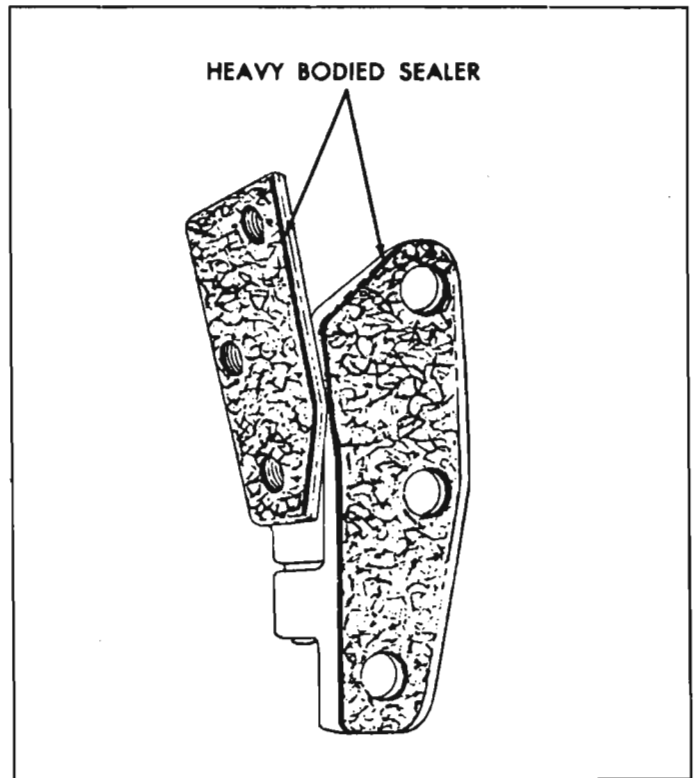

Fig. 10-62—Rear Door Hinge Sealing—Upper Hinge Shown, Lower Typical
2. Apply a coat of heavy-bodied sealer to attaching surfaces of hinge straps or corresponding surfaces of door and body (fig. 10-62).